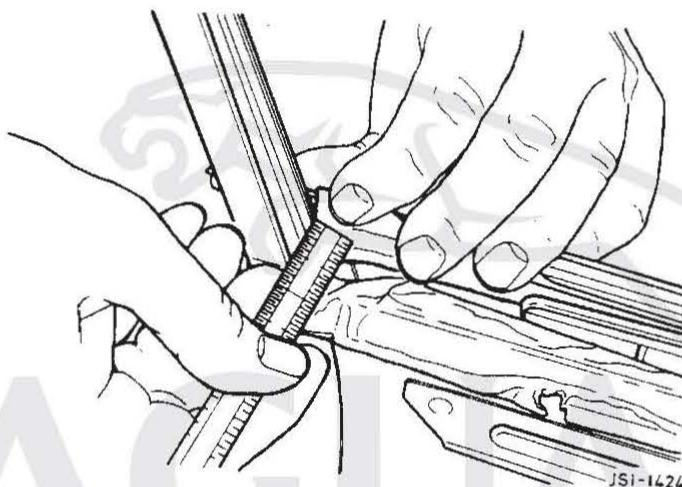
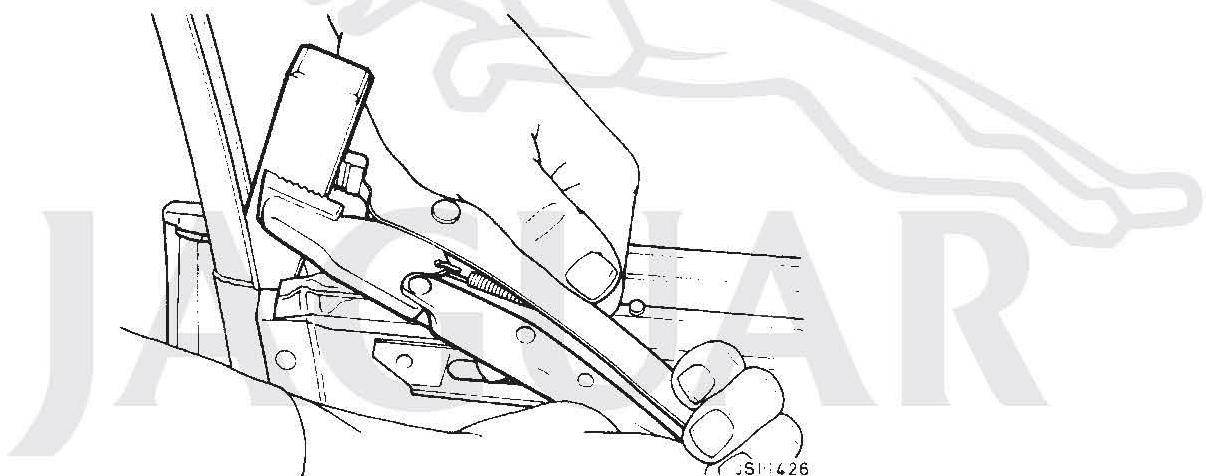

FIG 4
FIG 6
7. Refer to Fig 4; using an engineer's steel rule, measure the external width of the frame as shown. The correct dimension should be 19.5 to 20.5 mm.
10. Using a pair of pipe grips secured to the drift. twist the drift in the direction shown in Fig 6. This action should be repeated until a dimension of approximately 21 mm is achieved at the position shown in Fig 4. This 0.5 mm increase above the upper limit of 20.5 mm, will compensate for any "spring back" of the channel due to integral latent stresses.